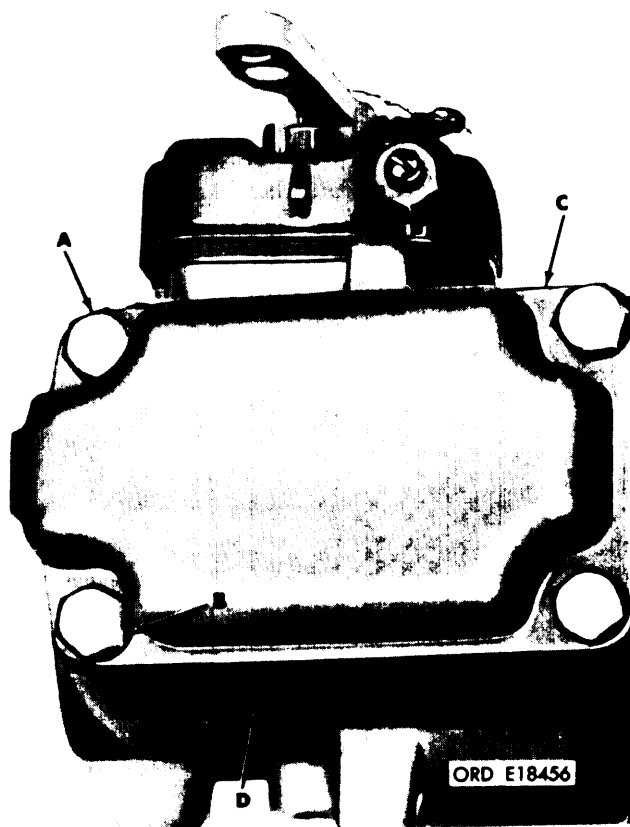

Figure 3-10. Removing governor cover (code G pumps).
(1) Refer to figure 3-10. Remove four machine screws (A) and lockwashers (B). Remove governor cover (C). Remove and discard cover gasket (D).